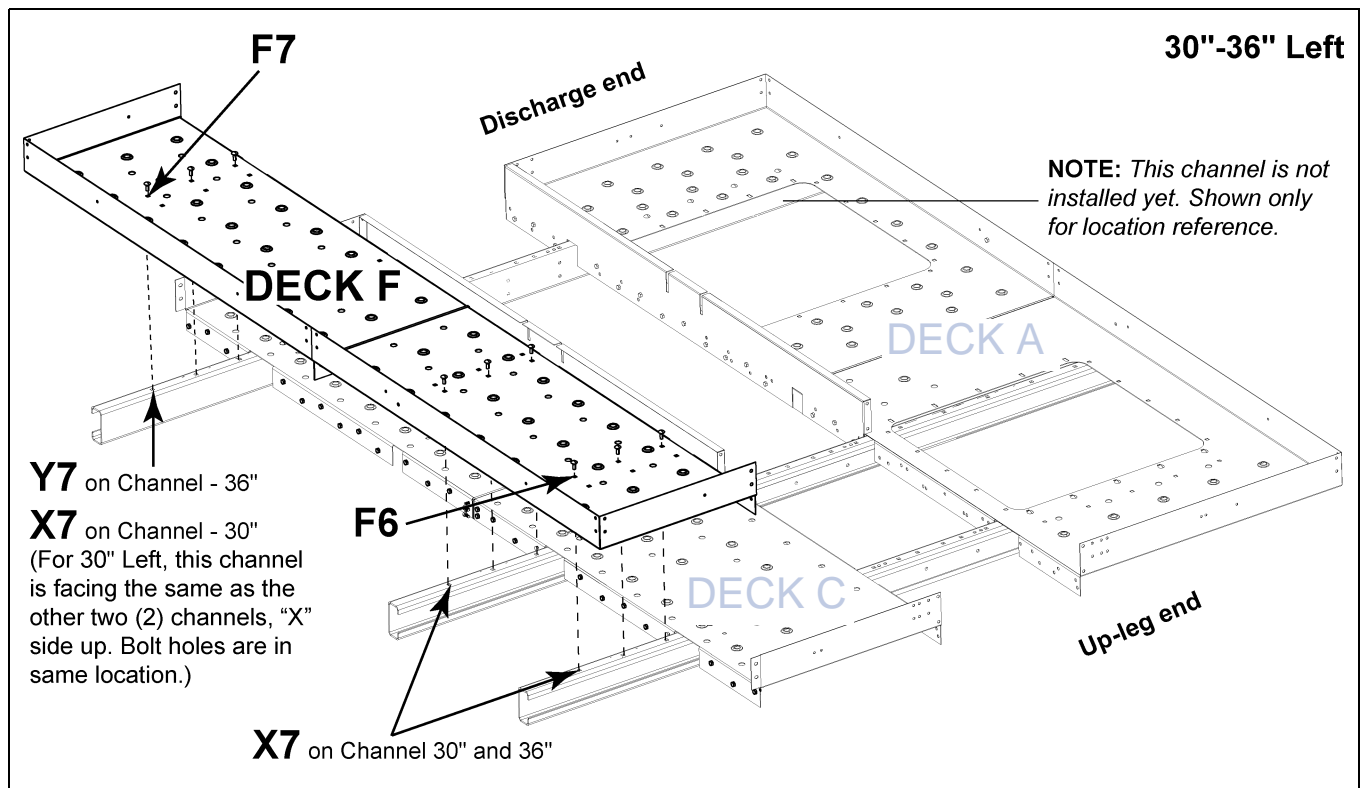

Figure 9L Deck F to Cross Deck Support Channel
1. Locate pre-assembled Deck F. This deck consists of two (2) planks.
2. Orient Deck F with hole **F7** at the discharge end of the lower head and **F6** at the up-leg end. (See Figure 9L.)
- b. F Deck hole **F1** to C deck hole **C7**. (See Figure 9L.)
(See Figure 9L on Page 75.)